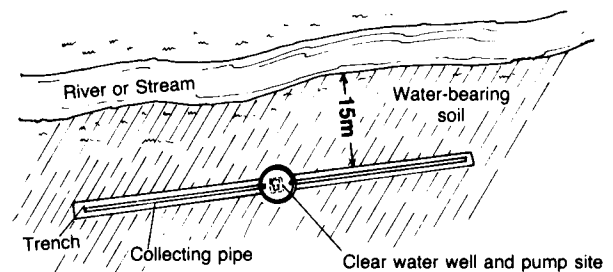

Figure 1. Location Map for Infiltration System
1. A map showing the location of the proposed intake. Figure 1 is a sample location map for an infiltration gallery.